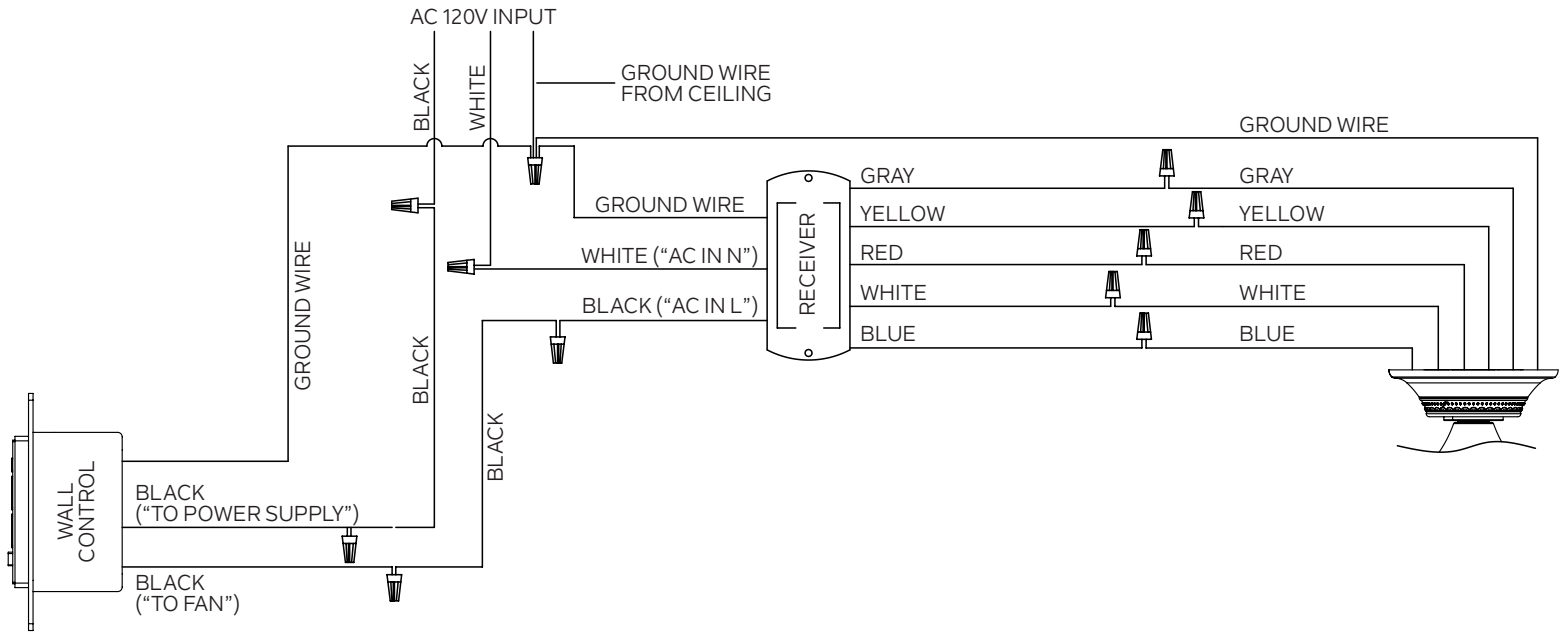

Fig. 14
Step 2. Connect wires using the connectors as shown in WIRE DIAGRAM. (Fig.14)